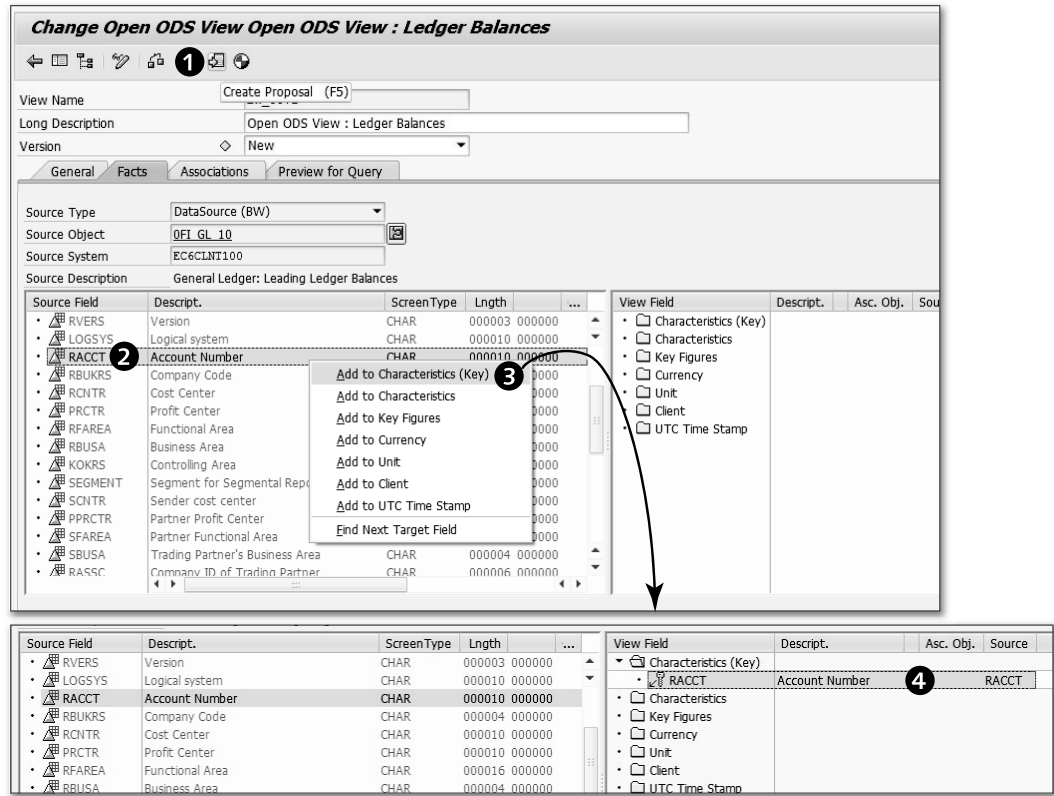

Figure 6.80 Adding to the Characteristics (Key) Section
If you plan to move all the source fields from source to view, you can use the proposal feature. By clicking on the **CREATE PROPOSAL** icon (❶ of Figure 6.80), you can move all the source fields to the **VIEW FIELD** section. All the fields are moved from source to view based on their data types. You can remove the fields that aren’t required from the **VIEW FIELD** section. If you require only a few fields to be taken from the **VIEW FIELD** section, you can take them one by one, as we’ll describe next.